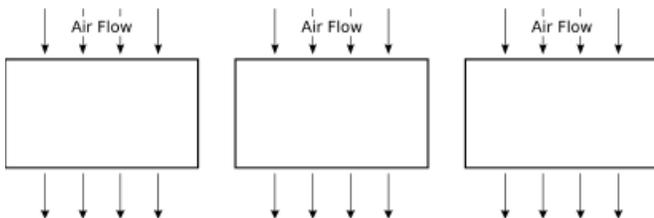

Figure 2-1 Remote Condenser Installation (Top View)
- 5 Place the condensing units on 4" x 4" treated wood or similar material so that the units are not sitting directly on the ground or the roof. Secure the condensing units to the 4" x 4" using lag bolts. Adhere to all local, state, and federal codes governing this type of installation. Some areas have specific "hurricane-proof" requirements for roof installations. Allow at least 3 feet of clearance on the air intake and discharge sides of the condensers. Do not set the condensers so that one is blowing air directly into the other condensing unit. The ideal set up is to have all the condensing units set in a row (Fig. 2-1).